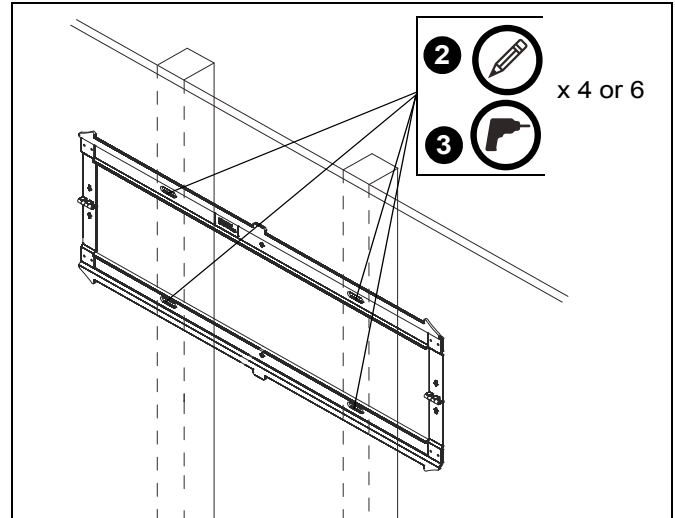

Figure 2
2. Level wall plate (A) and mark locations of pilot holes. (See Figure 2)
NOTE: The RMF2 must be installed on two 16" studs. The RLF2 can be installed on 16" studs (inner holes) or 24" studs (outer holes). For the RXF2, it can be mounted over two or three 16" studs or two 24" studs. If mounting to three 16" studs, it must be mounted to all three studs using the outer holes and center holes. (See Figures 2 and 3) All studs must be 2"x4".
3. Drill 7/32" (5.5mm) diameter pilot holes into wood studs at marked locations. (See Figure 2)